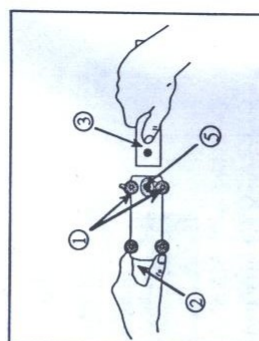

Fig. 5
2. Remove the protective cover from the lower boom. Push the lower boom into the coupler (Fig. 5).